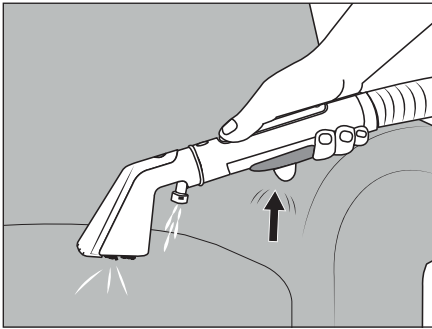

Fig. 6
(3) When using cleaning agents (vinegar-based cleaners and upholstery cleaning agents), always test how the appliance performs on an unobtrusive spot to ensure that no discoloration occurs.
(4) The appliance must be properly assembled before operation, and the fresh water tank ②  must be filled.
(5) Switch off the appliance before swapping the upholstery nozzle ㉒ and crevice nozzle ㉓.
(6) If the dirty water tank ⑦  is full, the float ⑥ closes the suction opening and the appliance runs at increased speed. Switch off the appliance immediately (see section **Cleaning the dirty water tank**).
(7) If the dirty water tank ⑦  is full, the float ⑥ closes the suction opening and the appliance runs at increased speed. Switch off the appliance immediately (see section **Cleaning the dirty water tank**).
- ◆ Fold the carrying handles ⑩ upwards and carry the appliance to the place where you need it.
- ◆ Hold the upholstery nozzle 22 2–3 cm above the area to be cleaned and press the spray button 20 to apply water / cleaning solution from the spray nozzle 26 (see Fig. 6).